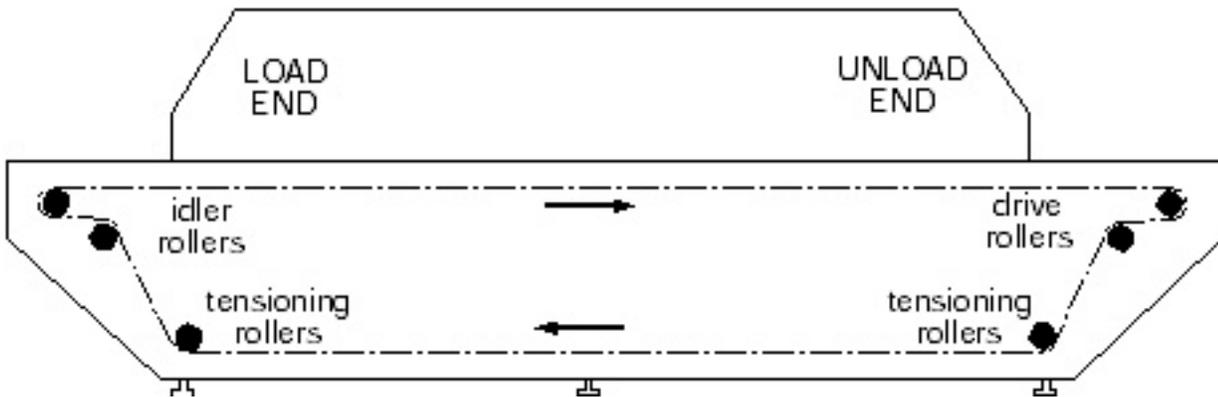

Figure 83: Mesh Belt Path
1. Pass the conveyor belt around its six (6) rollers as illustrated in Figure 83. Ensure that the closed ends of the loops lay toward the unload end of the machine.